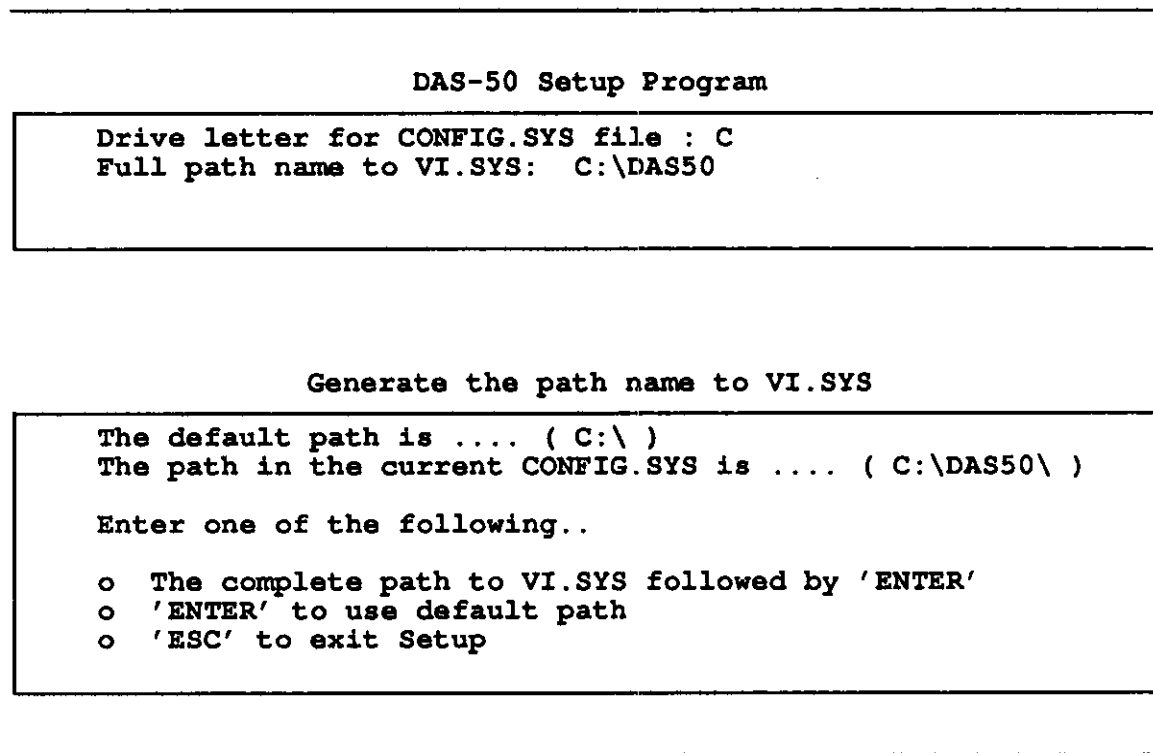

Figure 3-3. Generating the Path Name to VI.SYS
2. You will then be asked for the path name. If you are unsure of what a path name is, refer to the operator's manual provide with your PC. Otherwise, provide the path name, being certain to include the correct drive specifier and directory name(s). See Figure 3-3.